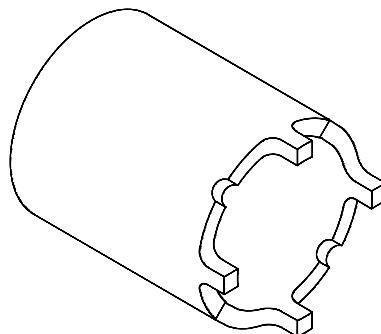

Figure 2. 4-Lug socket.
Jack-stands	4-Lug Socket for Dana 44 (Fig 2)*
4. Using hub spindle nut socket (See Figure 2) and torque wrench, torque nut to 50 ft-lb. Rotate wheel back and forth while tightening the nut. This helps seat the bearings.